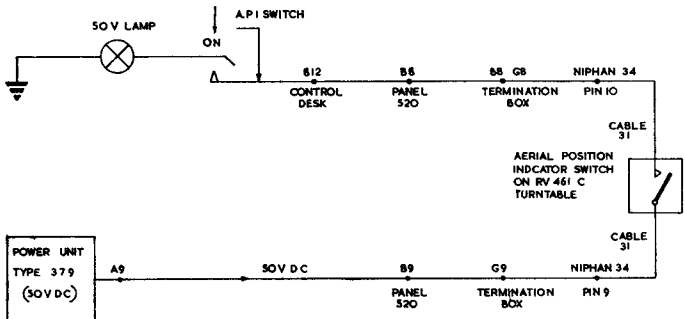

Fig. 55. Aerial position indicator key
*Aerial position indicator key (fig. 55)*